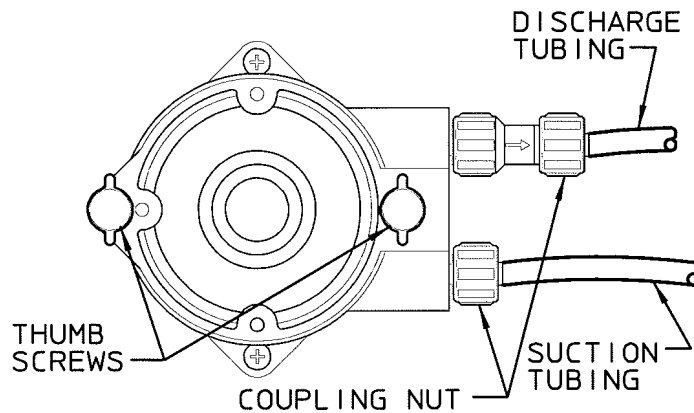

Figure 7a: Pump Head Assembly with Front Cover Attached
- 3) Loosen coupling nuts and remove the tubing from suction and discharge ports. See figure 7a.